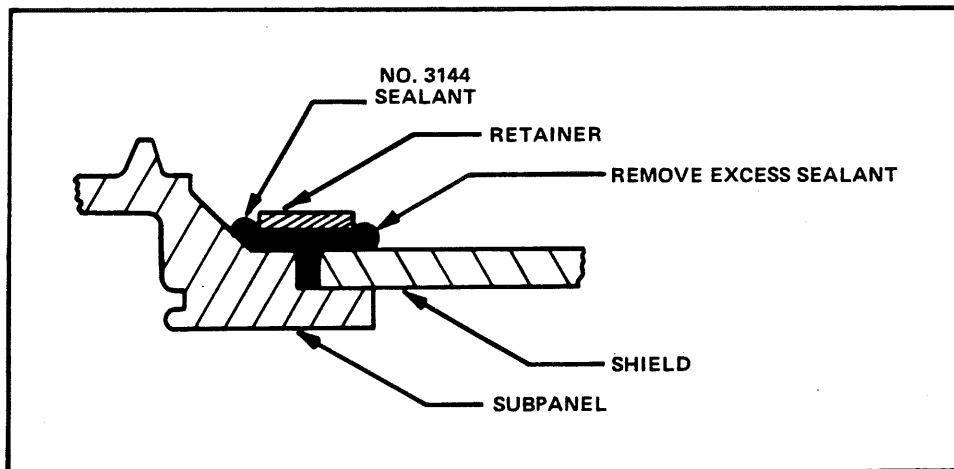

Figure 3. Detail of implosion shield sealing.
- (1) Pressing the retainer should cause some of the sealant to appear outside the retainer area, see Figure 3. Failure of the sealant to appear at any point around the retainer is an indication of inadequate sealing.
- (2) When performing this step, assure that the shield makes flush contact with the subpanel, see Figure 3.
- (5) After a curing time of approximately 4 hours, use a small wooden dowel, such as a Q-tip handle, and remove the excess sealant that is visible between the shield and retainer.